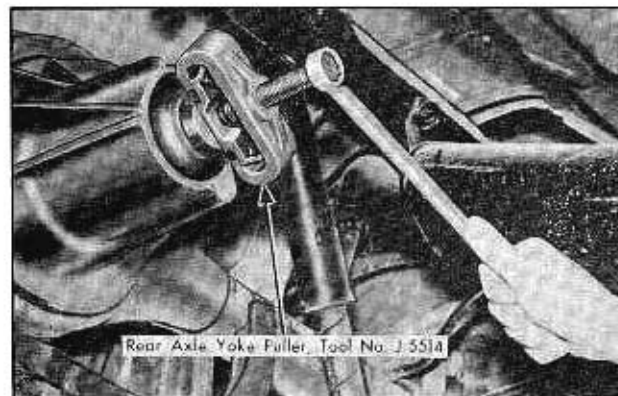

Fig. 8-5 Removing Pinion Yoke
8. Remove pinion yoke from pinion shaft with Puller, Tool No. J-5514. Fig. 8-5.